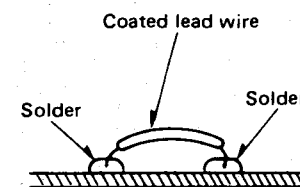

Fig. 8
1. If the chip jumper is removed, connect a coated lead wire to the part. (See Fig. 8).